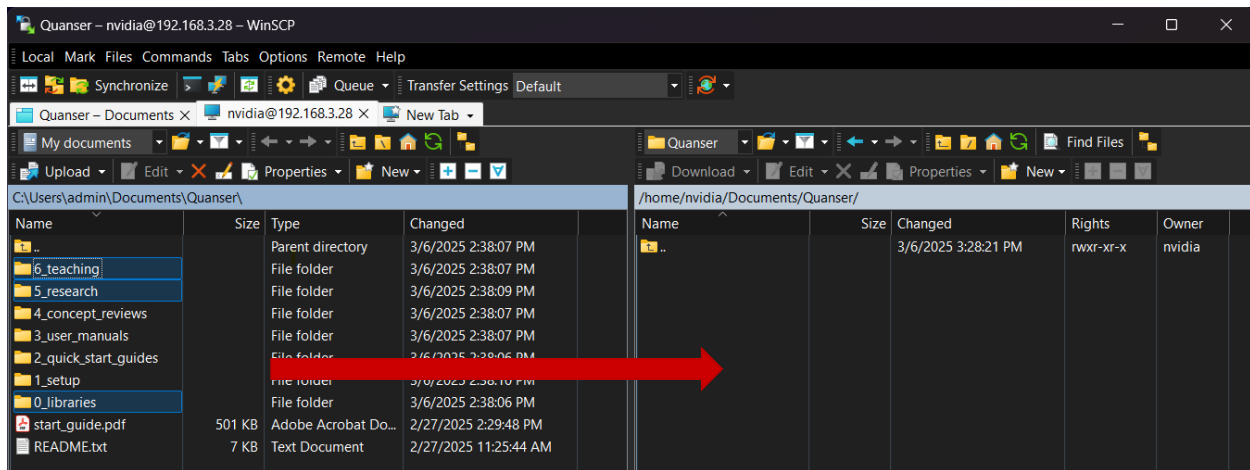

Figure 4. Transferring files to QCar
1. Make a directory on the QCar for Quanser resources where files will be transferred to and from. We recommend creating a folder called Quanser under Documents. The following directory should now exist: `/home/nvidia/Documents/Quanser`. To connect to the QCar2 and create this directory, we recommend using WinSCP, as shown in figure 4. (see the User Manual - Connectivity for how to remotely connect to the QCar).
2. Using WinSCP, on your PC side, navigate to `Documents/Quanser`. On the QCar 2 side, navigate to your new *Quanser* folder. Your WinSCP window should look like figure 4. From your PC side, copy/drag the **o\_libraries**, **5\_research** and **6\_teaching** folders over to your new Quanser folder in the QCar2.